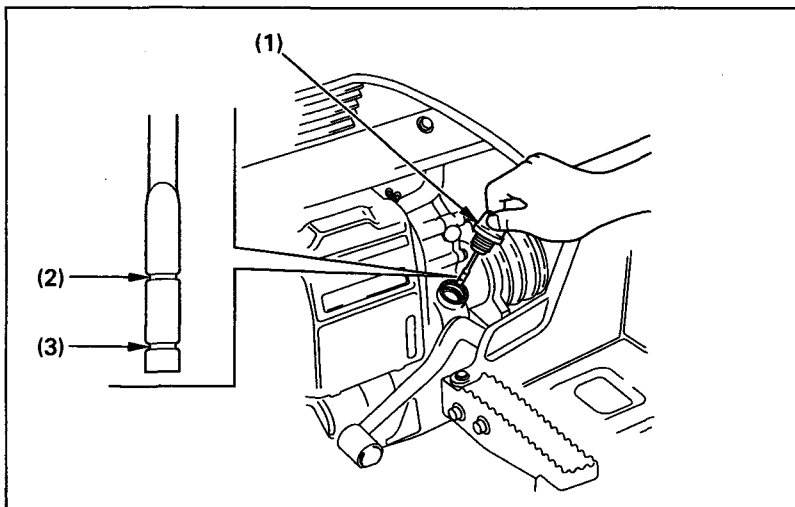

Fig. 2-21 (1) Oil filler cap/dipstick (2) Upper level mark (3) Lower level mark
The oil filler cap/dipstick (Fig. 2-21), on the right crankcase cover, is used to measure the oil level. The oil should be checked each day before operating the FOURTRAX and maintained between the upper level mark (2) and the lower level mark (3).